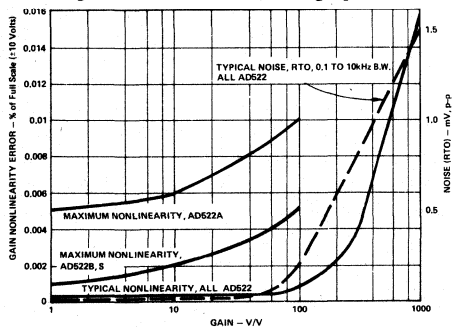

Figure 4. Gain Nonlinearity and Noise (RTO) vs. Gain
**Gain Nonlinearity and Noise:** Gain nonlinearity increases with gain as the device loop-gain decreases. Figure 4 is a plot of typical nonlinearity vs. gain. The shape of the curve can be safely used to predict worst-case nonlinearity at gains below 100. Noise vs. gain is shown on the same graph.